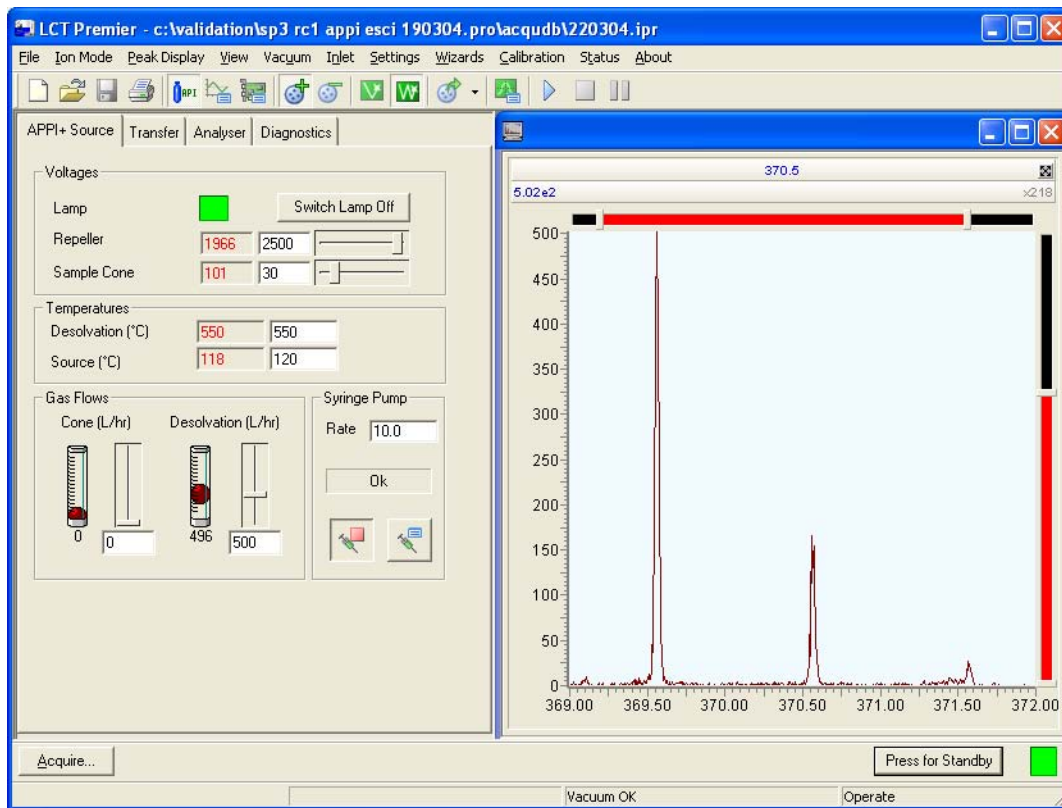

Figure 5-11 Tune Window with Cholesterol Peaks
16. Observe the cholesterol peak at  $m/z$  369.0 ( $M(-H_2O)+H^+$ ) displayed in the peak display window (Figure 5-11).
17. Tune the instrument (see Section 5.1.2), and optimize the lamp position, adjust the Source page Repeller (V) value, and adjust the APCI probe position, if necessary, to give the maximum peak intensity.